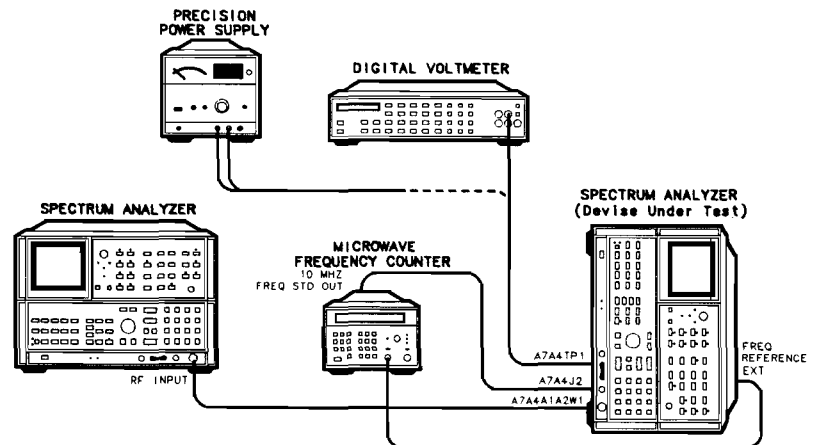
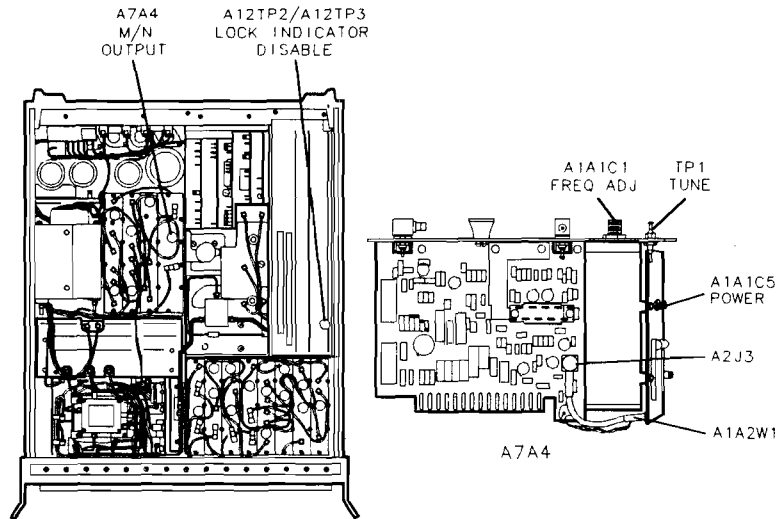

Figure 3-67. M/N Loop Adjustment Setup
Figure 3-68. Location of PLL Adjustments
Procedure	1. Position the spectrum analyzer on its right side as shown in Figure 3-67. Remove the bottom cover of the RF Section. 2. Connect the frequency counter's rear-panel 10 MHz FREQ STD OUT connector to the RF Section's rear-panel FREQ REFERENCE EXT connector. See Figure 3-67. Set the RF Section's rear-panel switch to EXT. 3. Connect a jumper between A12TP2 and A12TP3 (LOCK INDICATOR DISABLE) in the RF Section. Refer to Figure 3-68 for the location of A12TP2 and A12TP3.
4. Disconnect the cable 93 (white/orange) from A7A4J2 M/N OUT in the RF Section. Refer to Figure 3-68 for the location of the A7A4 M/N Output Assembly.
16. Disconnect the cable 9 (white) A7A4A1A2W1 from A7A4A2J3 on the A7A4 M/N Output Assembly. Refer to Figure 3-68 for the location of A7A4A1A2W1 and A7A4A2J3. Use an SMB male-to-male adapter and a BNC to SMB Snap-on Test Cable to connect the white cable to the input of the second spectrum analyzer.
19. Adjust A7A4A1A1C5 PWR for an M/N VCO output level of 0.0 dBm ± 2.0 dB as indicated on the second spectrum analyzer display. Refer to Figure 3-68 for the location of A7A4A1A1C5 PWR adjustment.